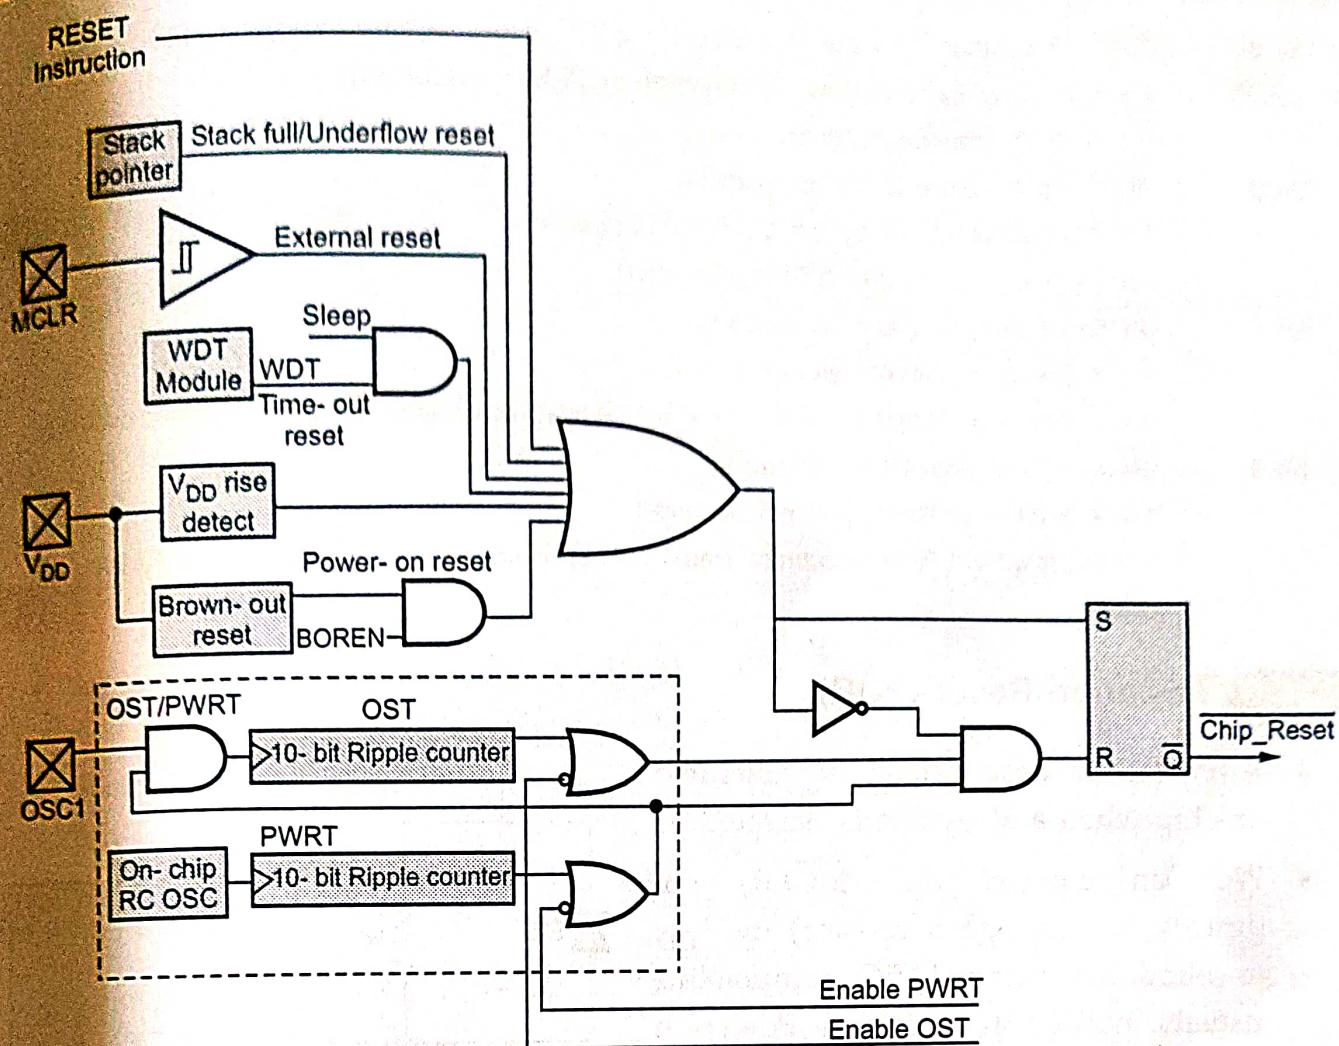

Fig. 2.10.1 Simplified block diagram of the On-Chip Reset Circuit
- Fig. 2.10.1 shows a simplified block diagram of the On-Chip Reset Circuit.